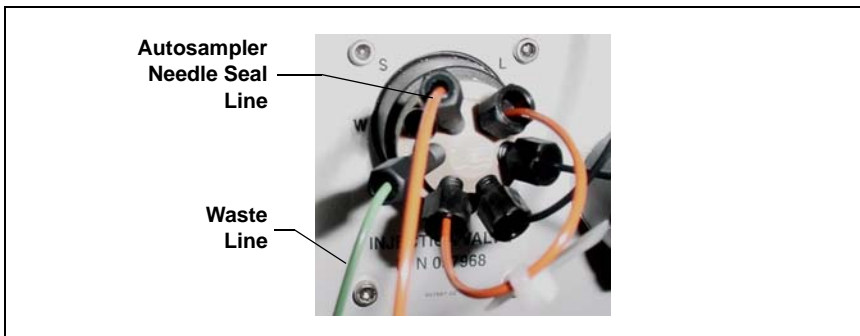

Figure 7. Injection Valve
4. Connect the needle seal line to port **S** (5) on the injection valve (see Figure 7).